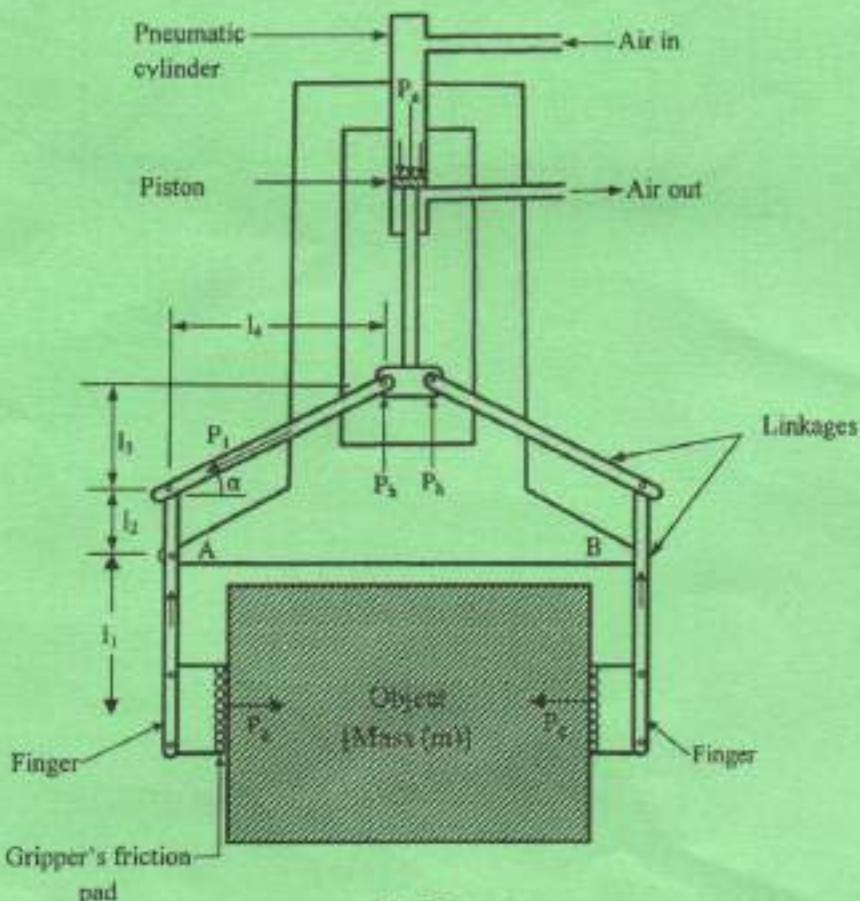

Fig. 5
- (c) Figure 5 shows a schematic diagram of a robot gripper mechanism, using friction to grasp an object. The following data relate to the gripper: